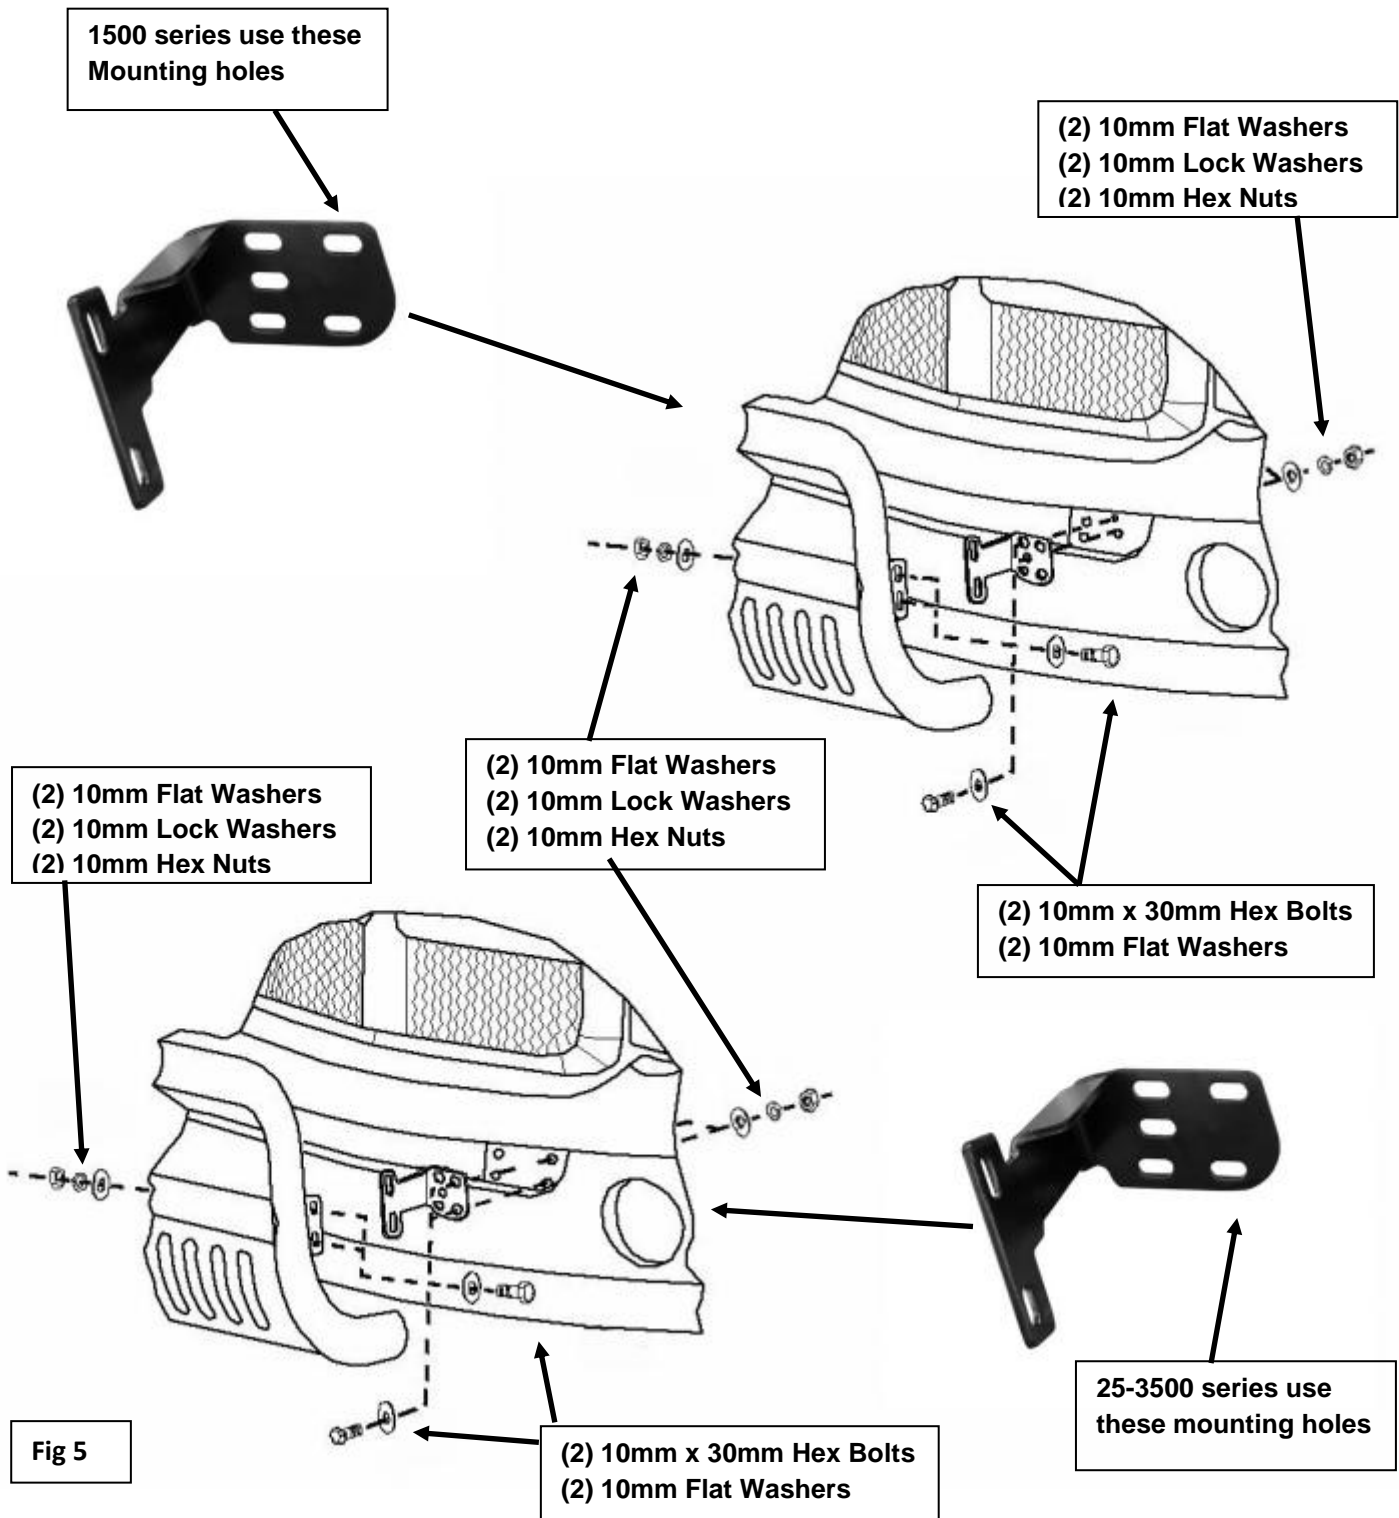

Fig 5
Select the driver side Frame Mounting Bracket. Line up the inner center and top mounting holes in the Bracket with the outer two mounting holes on the mounting plate on the end of the frame behind the bumper, **(Figure 2)**. Bolt the Bracket to the frame with (2) 10mm x 35mm Hex Bolts, (4) 10mm Flat Washers, (2) 10mm Lock Washers and (2) 10mm Hex Nuts, **(Figure 5)**. **NOTE:** Access the back of the mounting location from behind the bumper bracket.
4. With assistance, lift the Bull Bar up to the outside of the Brackets. Bolt the Bull Bar to the Brackets with the included (4) 10mm x 35mm Hex Bolts, (8) 10mm Flat Washers, (4) 10mm Lock Washers and (4) 10mm Hex Nuts, **(Figure 5)**. Do not fully tighten hardware at this time.